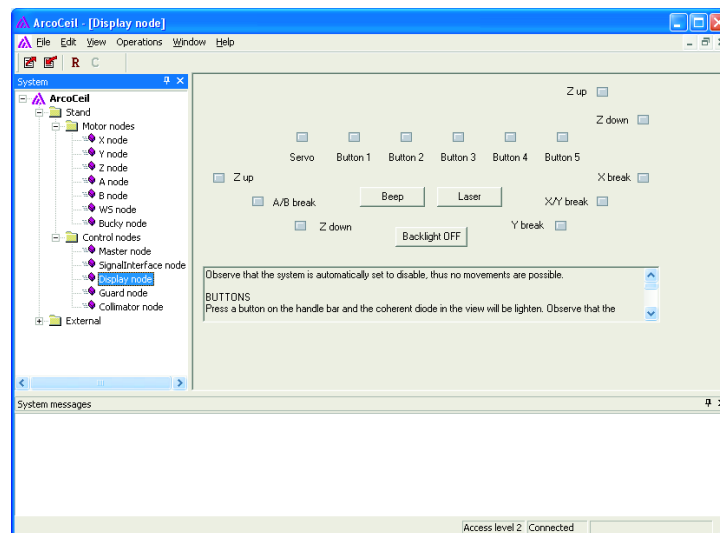

Fig. 4-190 Display node view
1. Enter the Display node view, see **Fig. 4-190**.